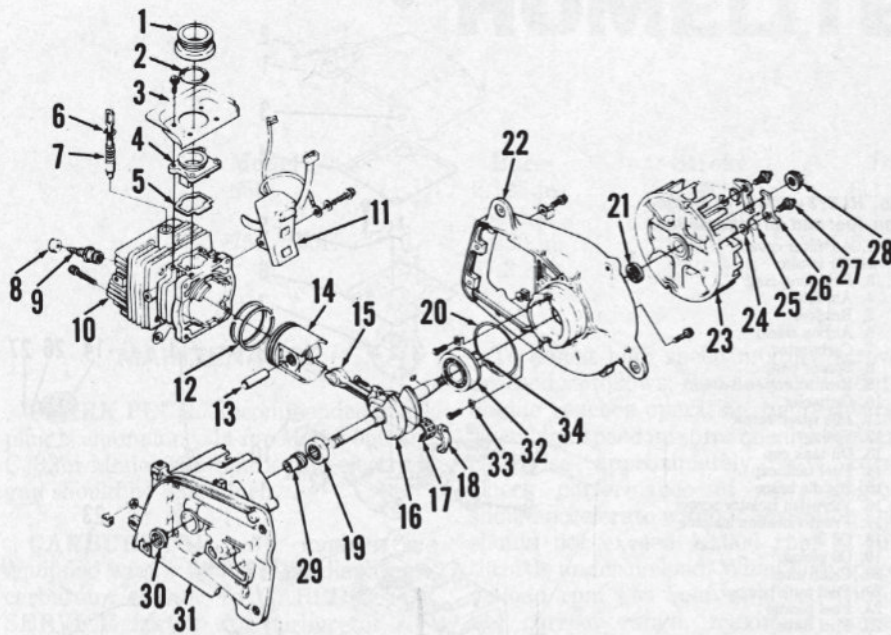
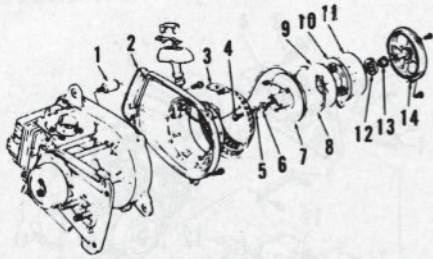

Fig. HL274—Exploded view of Model 750 and 750E engine. Model 650 is similar except second roller bearing (19) is used in place of components (32, 33 and 34).
Fig. HL281—Exploded view of starter.
CRANKSHAFT, CRANKCASE AND SEALS. Crankshaft on 750 and 750E models is supported by roller bearing (19—Fig. HL274) and ball bearing (32).
AUTOMATIC CHAIN OIL PUMP. All models are equipped with an automatic oil pump driven by worm (29—Fig. HL274) on crankshaft. Oil is pumped by
RECOIL STARTER. Refer to Fig. HL281 for an exploded view of starter assembly. Starter pawl components attached to flywheel are shown in Fig. HL274.
To disassemble starter, hold cover (14—Fig. HL281) and unscrew retaining screws. Allow cover to turn until spring tension is relieved and remove cover. Note: If outer hook of spring catches on starter housing, pull cover away from housing until cover is allowed to turn. Unscrew screw (4) to separate rope pulley (7) from cover. Remove snap ring (8) for access to rewind spring. If starter pawl assemblies must be removed, unscrew housing screws and remove starter housing (2). Threaded inserts are
Clean and inspect components. Lubricate sides of rewind spring with a small amount of Homelite® ALL-TEMP Multi-Purpose grease or a lithium base grease. Do not oil spring. Install inner spring shield (11), rewind spring (10) and spring lock (12) in cover with spring wound as shown in Fig. HL282. Install outer spring shield (9—Fig. HL281) and snap ring (8). Insert bushings (6 and 13) in rope pulley (7) being sure knobs on bushings align with notches in pulley. Slide pulley onto post in cover and check to be sure splines on pulley engage splines in spring lock. Install and tighten capscrew (4) to 45 in.-lbs. Wind rope around pulley in clockwise direction as viewed from screw end of pulley. Set cover in housing. Pull rope handle and then allow rope to rewind so that starter pawls will be forced open and pulley hub can slide between them into place. Turn cover clockwise 2 or 3 turns to preload rewind spring, snap plastic screen into place and install cover screws. Check starter operation.
Install compression release valve with sharp side of snap ring (6—Fig. HL274) out. Push compression release valve and snap ring down into valve bore making sure snap ring fully engages snap ring groove. Homelite tool A-24876 may be used to seat snap ring in groove.